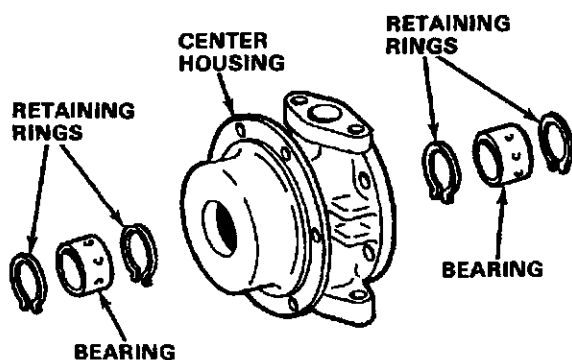

Figure 2.30. Bearing Removal
- b. Using snap ring tool, remove the outboard bearing retainers and bearings from each side of the center housing. Refer to Figure 2.30.